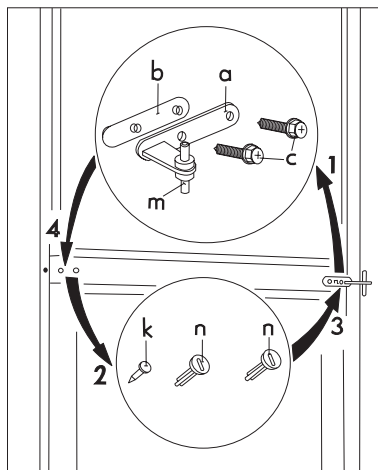

Fig. 3
spacer (b) under the door mount is also removed (Fig. 3).
- Remove the left-hand cover pin of the double door mount (3 pieces, n, k) and move to the other side (Fig. 3).
- Fit the pin of the double door mount (m) into the left-hand hole of the freezer door (Fig. 3).